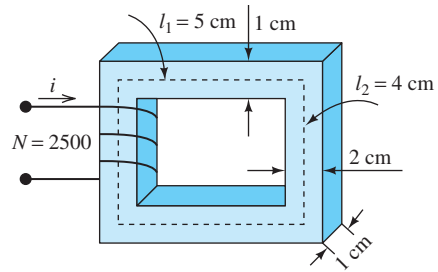

FIGURE P12.12 Magnetic core.
- 12.12 (B) Find the reluctance of the core given in figure P12.12. 12.13 (A) In practice, circuits must often be designed to produce a certain amount of magnetic flux in an airgap.